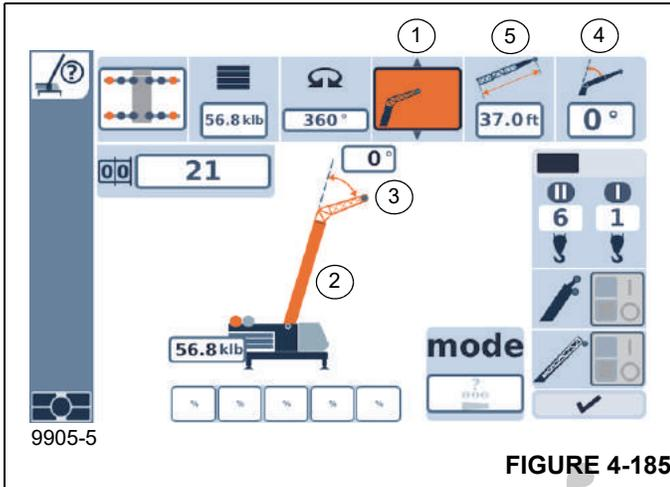

FIGURE 4-185
- Select and confirm the symbol (1, Figure 4-185).
- Use symbol (1, Figure 4-185) to select the rigged boom system.